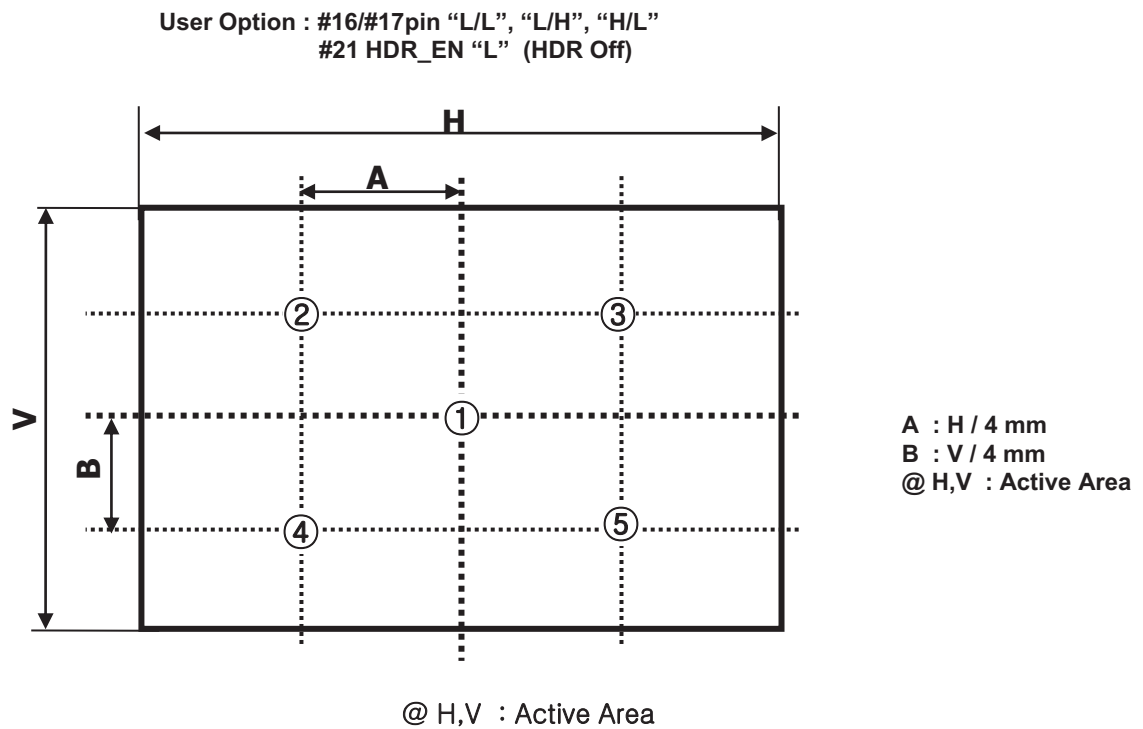

FIG. 2 PTN & Point for Contrast Ratio & Transmittance Measure
n = the Position number(1, 2, 3, 4, 5). For more information, see FIG 2.
It is measured with FIG 2
- (1) Temperature : 5 ~ 40 °C
- (2) Humidity : 35 ~ 75 %RH
- (3) Period : 6 months
- (4) Control of ventilation and temperature is necessary.
- (5) Please make sure to protect the product from strong light exposure, water or moisture. Be careful for condensation.
- (6) Please keep the modules at a circumstance shown below Fig. 2
< Fig. 2 >